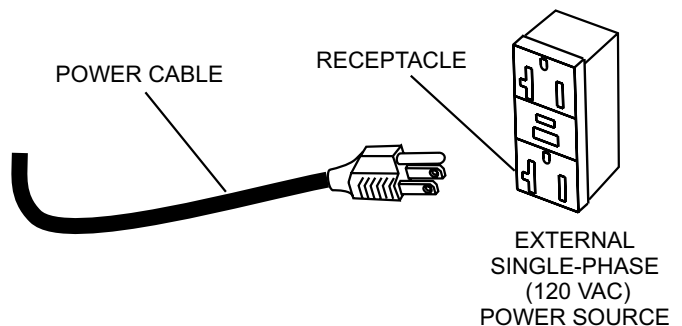

Figure 34. 120 VAC Receptacle
3. If using a power source (Figure 34) other than a portable generator, plug the AC power cord from the lamp into a 120 VAC, 60 Hz receptacle that is protected by a at least a 15 amp circuit breaker.